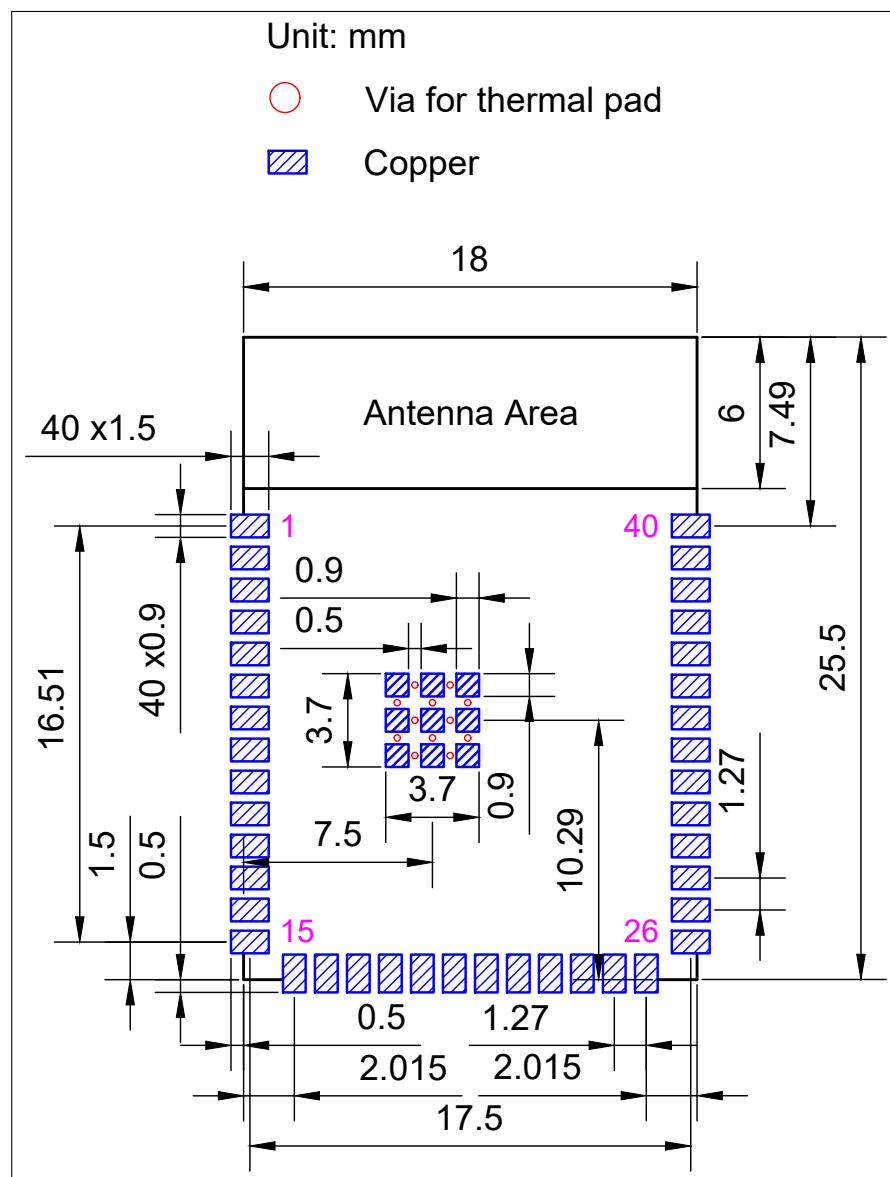
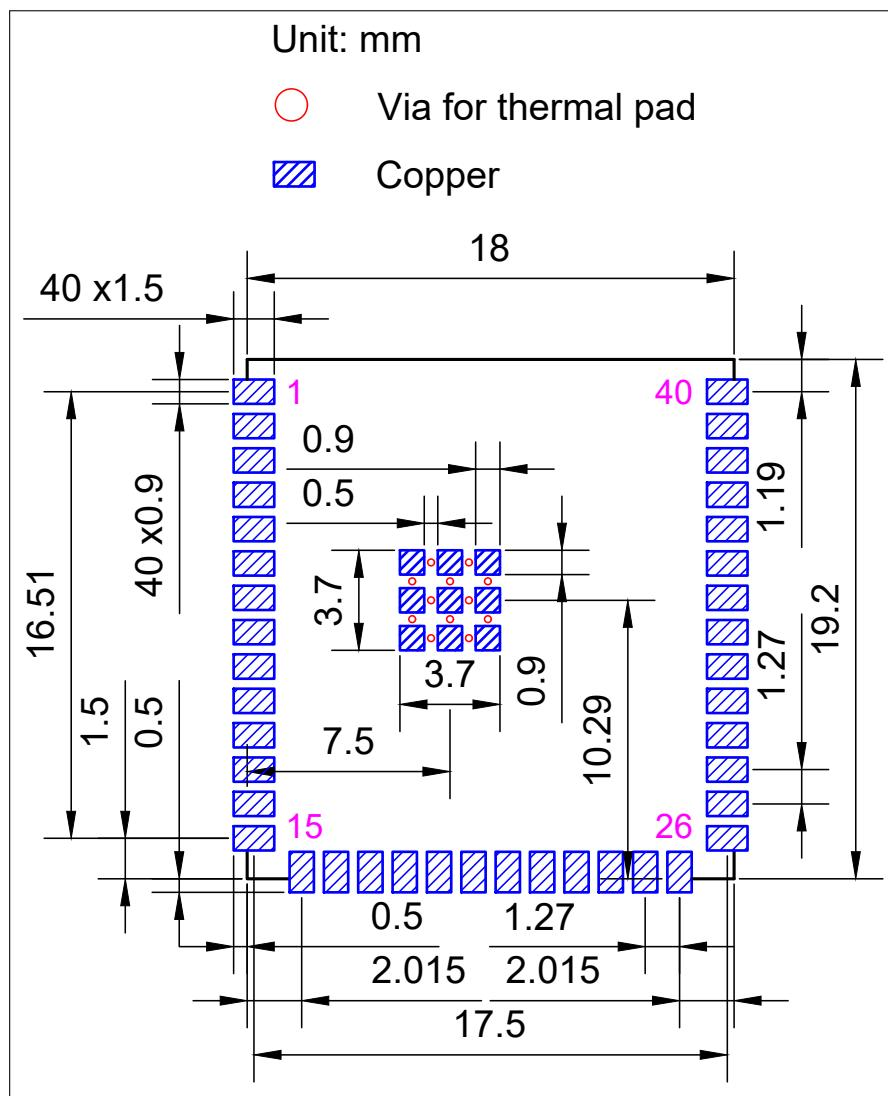

Figure 11-1. ESP32-S3-WROOM-1 Recommended PCB Land Pattern
Figure 11-2. ESP32-S3-WROOM-1U Recommended PCB Land Pattern
- Figures for recommended PCB land patterns with all the dimensions needed for PCB design. See Figure 11-1 ESP32-S3-WROOM-1 Recommended PCB Land Pattern and Figure 11-2 ESP32-S3-WROOM-1U Recommended PCB Land Pattern.
- Source files of recommended PCB land patterns to measure dimensions not covered in Figure 11-1 and Figure 11-2. You can view the source files for ESP32-S3-WROOM-1 and ESP32-S3-WROOM-1U with Autodesk Viewer.